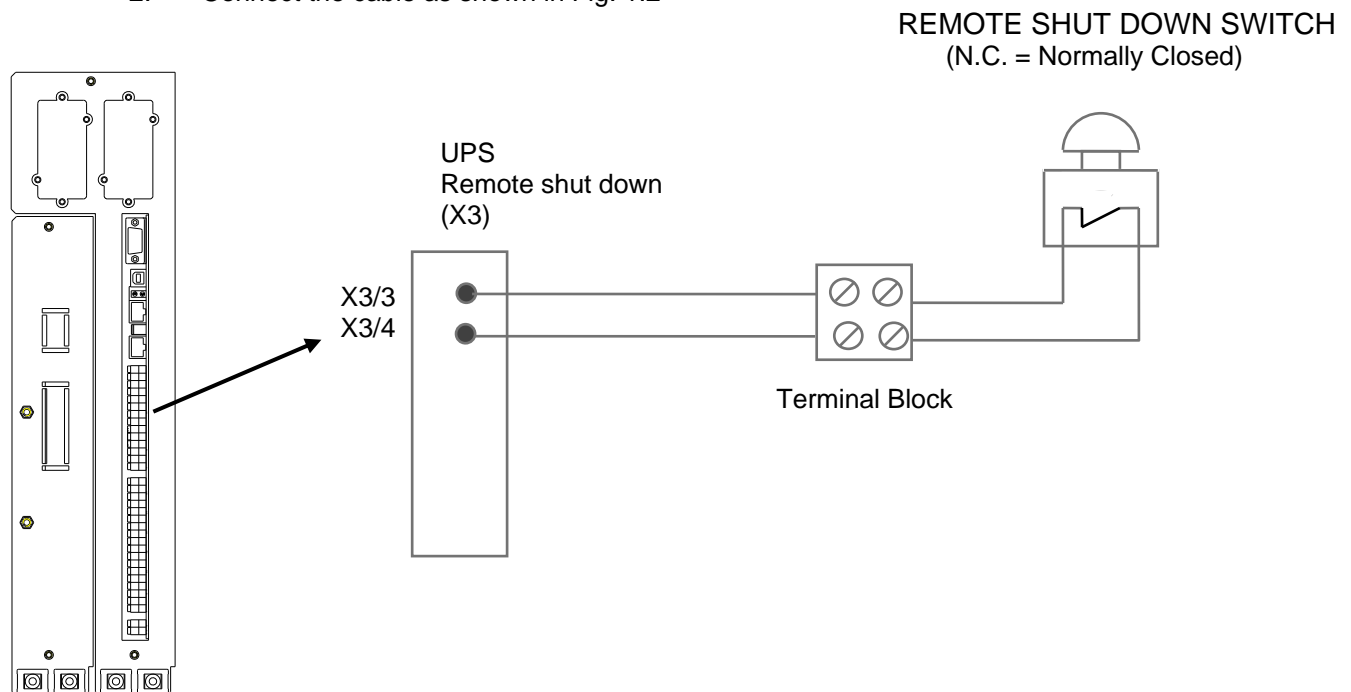

Fig 1.2 Drawing of the wiring for the REMOTE SHUT DOWN SWITCH PW33 400-500kW.
2. Connect the cable as shown in Fig. 1.2